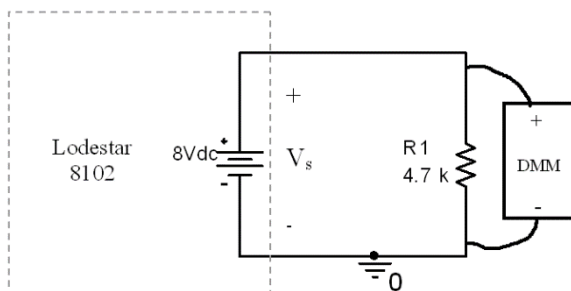

Figure 6: DMM in parallel to measure voltage
2. Reconfigure the meter to measure voltage instead of resistance. Measure the voltage across the resistor, as shown in Figure 6. The multimeter should be in parallel with the resistor for use as a voltmeter. This is because the voltmeter has a very high input resistance, and current tends toward the path of least resistance, and ideally, we want all the current to pass through the resistor.